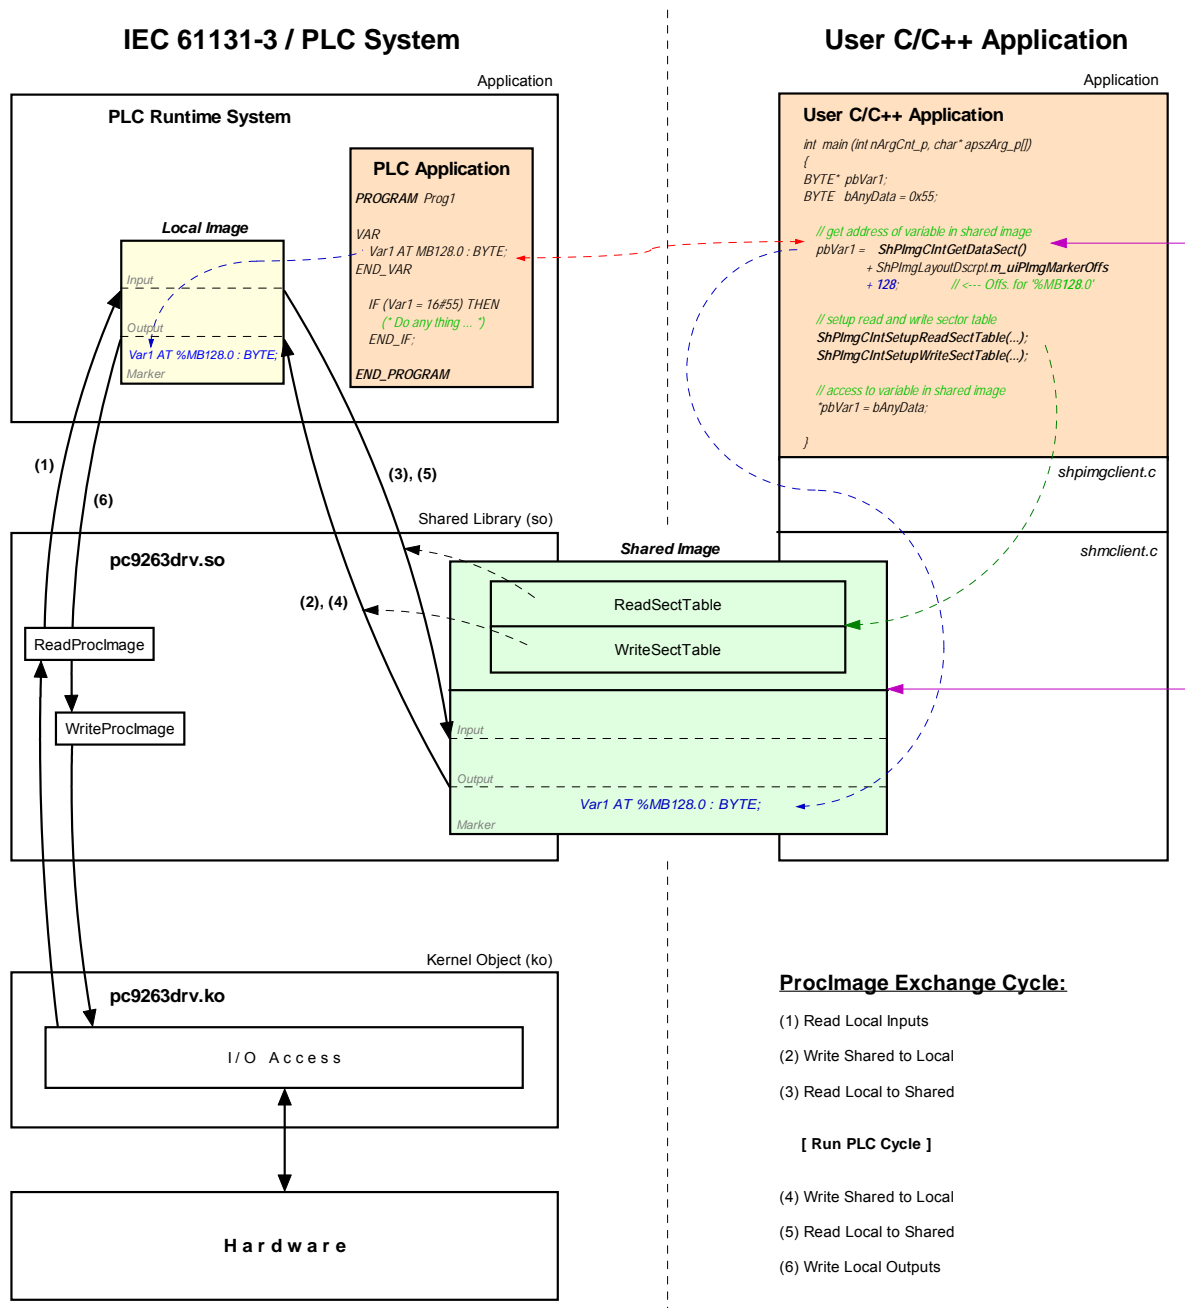

Figure 28: Overview of the shared process image
Not all variables are utilizable via the shared process image within a C/C++ application. Only those directly addressed variables that the PLC program generates within the process image. As shown in Figure 28, two separate process images are used for the data exchange with an external application inside of the PLC runtime system. This is necessary to meet the IEC 61131-3 requirement that the initial PLC process image may not be modified during the entire execution of one PLC program cycle. Thereby, the PLC program always operates with the internal process image that is locally generated within the PLC runtime system ("Local Image" in Figure 28). This is integrated within the PLC runtime system and is protected against direct accesses from the outside. On the contrary, the user-specific, external C/C++ application always uses the shared process image ("Shared Image" in Figure 28). This separation of two process images enables isolation between accesses to the PLC program and the external application. Those two in parallel and independently running processes now must only be synchronized for a short period of time to copy the process data.
An activation of **option "Share PLC process image"** within the PLC configuration enables data exchange with external applications (see section 7.4.1). Alternatively, entry *"EnableSharing="* can directly be set within section *"[Proclmg]"* of the configuration file *"/home/plc/bin/plccore-9263.cfg"* (see section 7.4.3). The appropriate configuration setting is evaluated upon start of the PLC firmware. By activating option **"Share PLC process image"**, the PLC firmware creates a second process image as Shared Memory ("Shared Image" in Figure 28). Its task is to exchange data with external applications. Hereby, the PLC firmware functions as Server and the external, user-specific C/C++ application functions as Client.
Sections to read and write may comprise all sections of the entire process image – input, output as well as marker sections. This allows for example that a Client application writes data into the input section of the PLC process image and reads data from the output section. Figure 28 shows the sequence of single read and write operations. Prior to the execution of a PLC program cycle, the physical inputs are imported into the local process image of the PLC (1). Afterwards, all sections defined in *WriteSectorTable* are taken over from the shared process image into the local process image (2). By following this sequence, a Client application for example is able to overwrite the value of a physical input. This may be used for simulation purposes as well as for setting input data to constant values (*"Forcen"*). Similarly, prior to writing the process image onto the physical outputs (6), sections defined in *WriteSectorTable* are taken over from the shared process image into the local process image. (4). Thus, a Client application is able to overwrite output information generated by the PLC program.
As illustrated in Figure 28, the user-specific C/C++ application exclusively uses the API (Application Programming Interface) provided by the *shared process image client*. This API is declared in the